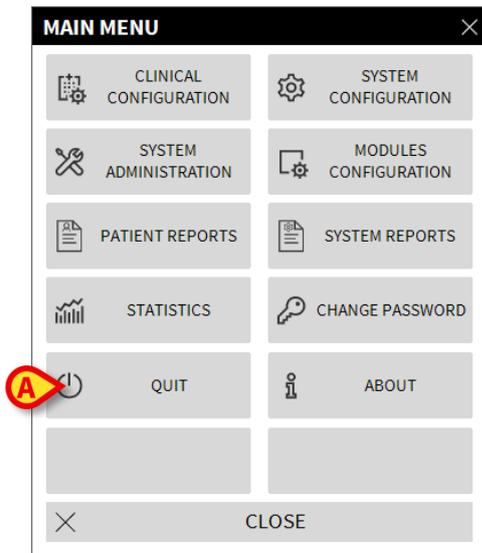

Fig 40
The **Quit** button on the DIGISTAT® main menu (Fig 40 **A**) makes it possible to quit the DIGISTAT® environment. To quit DIGISTAT®:
The DIGISTAT® main menu will open (Fig 40).
- Click the **Quit** button (Fig 40 **A**)